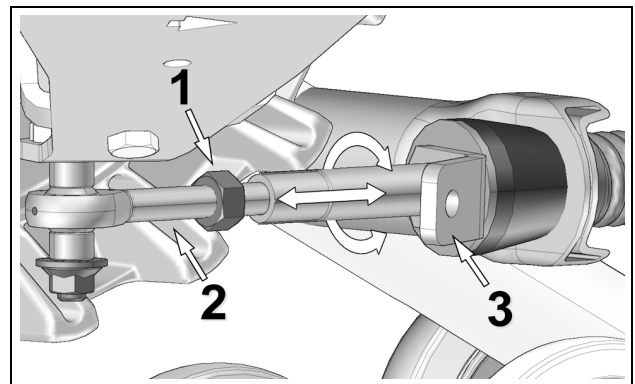

Figure 5
- Loosen jam nut (1). Adjust length of rod end (2) by rotating the steering limiter support plate on (3) the stabilizing arm. Use a 30 mm wrench to rotate support plate and obtain **270 mm** above the ground. Refer to Figure 5.
*NOTE:* The stabilizing arms on front Track Systems incorporate a steering limiter support plate (3) that is bent. This plate should be positioned inwards, towards the vehicle.